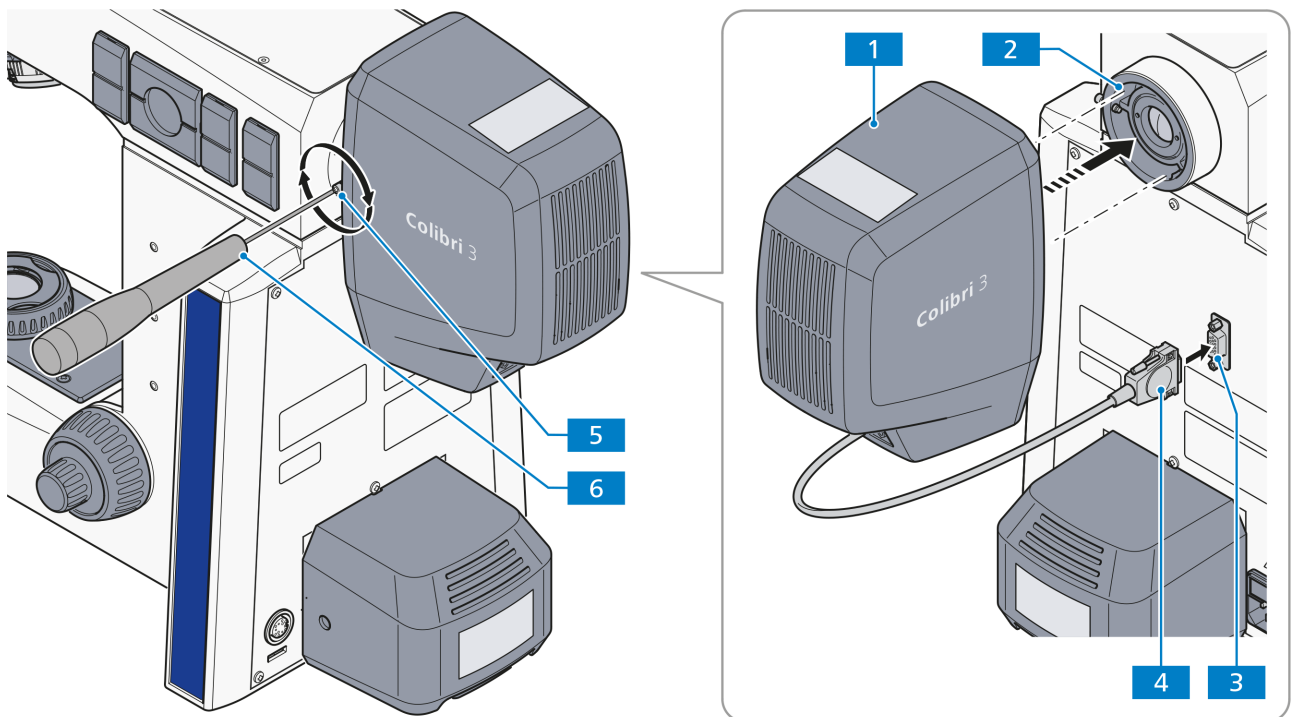

Fig. 3-37 Mounting the illumination system Colibri 3
- With the Allen wrench (AF 3) (Fig. 3-37/6) loosen the clamping screw (Fig. 3-37/5) of the RL illumination connector on the upper back of the stand.
- Align the illuminator's (Fig. 3-37/1) dovetail ring with the connection piece (Fig. 3-37/2) at the stand.
- Tighten the clamping screw (Fig. 3-37/5) with the Allen wrench (AF 3).
- Connect the illuminator plug (Fig. 3-37/4) to the stand socket (Fig. 3-37/3).